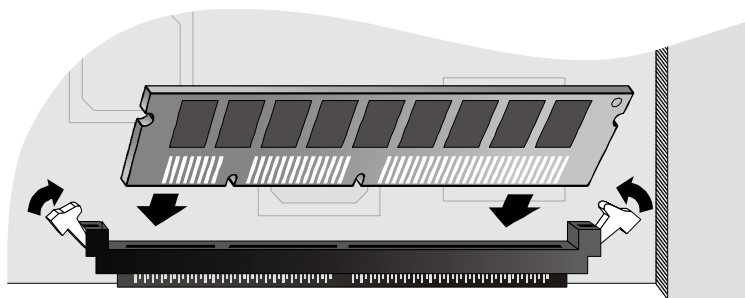

Figure 5-4 Installing the Memory Module
- 3 Align the memory module as shown in Figure 5-4 and gently set it in the memory module slot of the DuraStor RAID controller. The memory module is keyed to the slot to ensure proper installation.